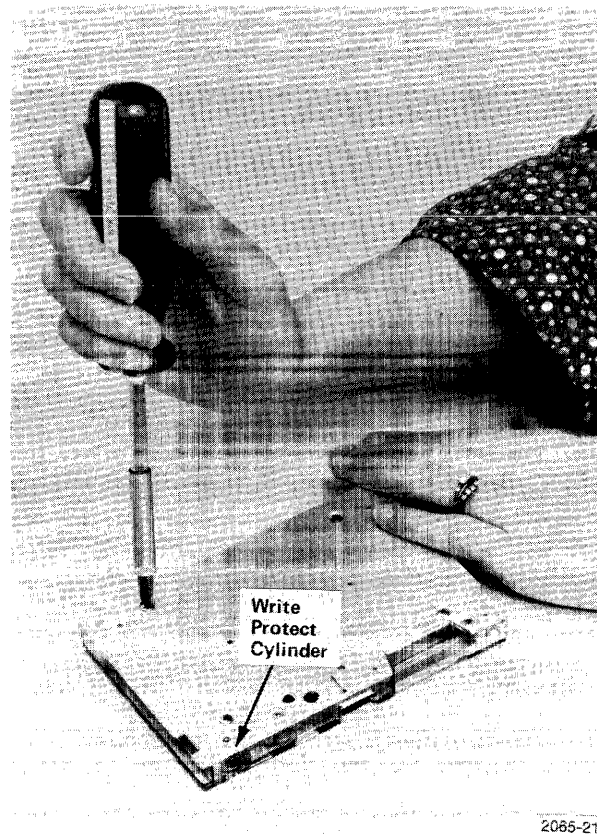

Fig. 3-3. Disassembling the tape cartridge.
2. Carefully remove the metal base plate, using caution not to lose the write-protect cylinder or the small metal spring between the cylinder and the metal base (Fig. 3-3).